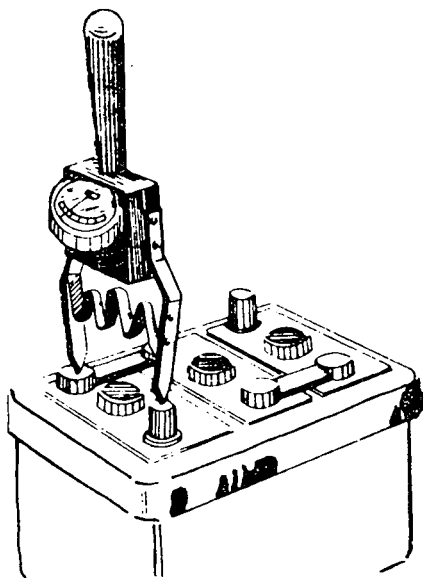

Fig. 2
- c) Check the charge (Figs. 2 and 3).